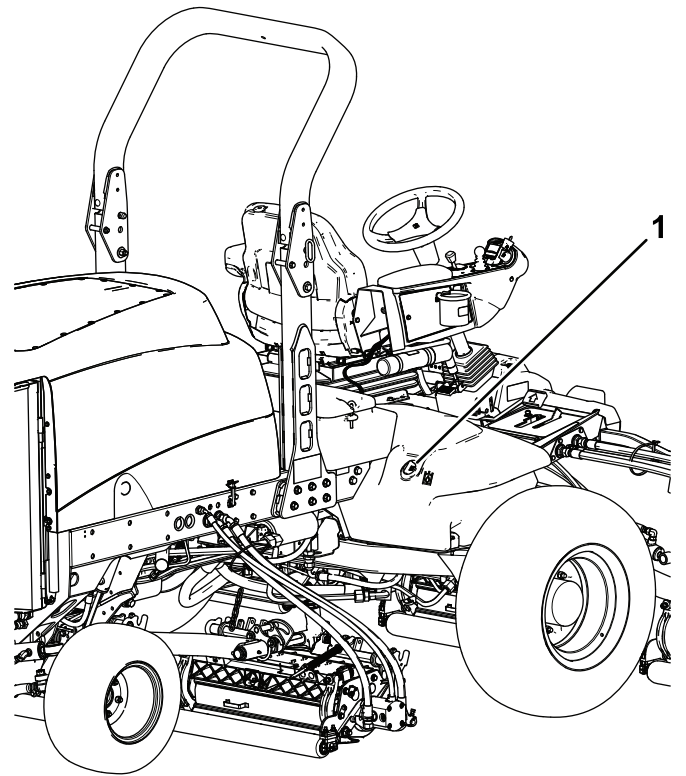

Figure 106
2. Clean the area around the filler neck and cap of the hydraulic tank (Figure 106).